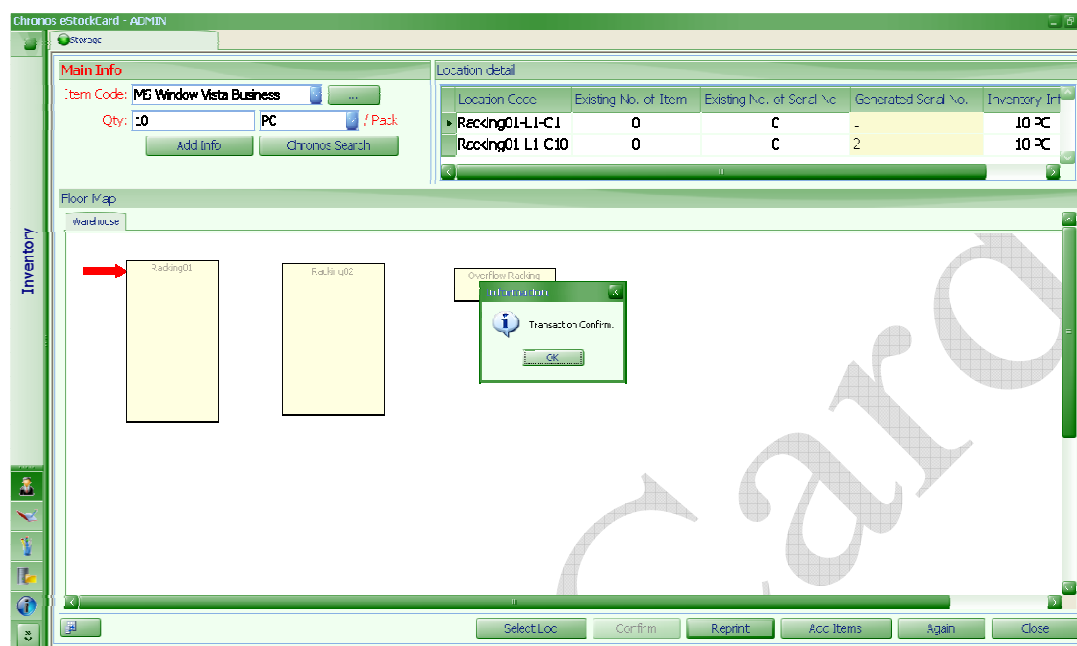

Fig. 37
Step 6 If you feel good about the suggested locations. Clicks “Confirm”. Otherwise, you can change it manually by Clicks “Select Loc”. After “Confirm” button is pressed. (Fig. 37)